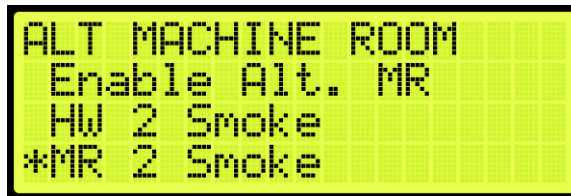

Figure 569: ALT MACHINE ROOM Menu – MR 2 Smoke
3. From the ALT MACHINE ROOM menu, scroll and select MR 2 Smoke (See Figure 569).